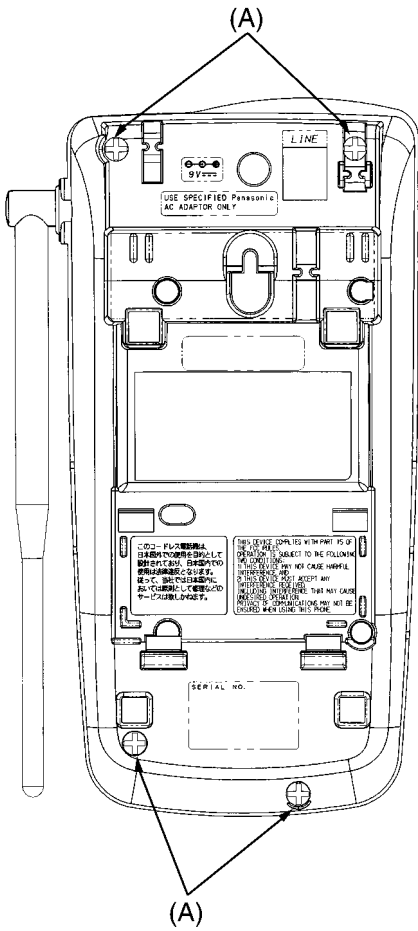

Fig. 1
(1) NORMAL POWER mode (Stand-By). In this mode the LCD will remain blank.
(2) TEST LOW mode. Place the portable unit on the base unit while pushing **FLASH** and **☒** key at the same time within 5 seconds after Power supply the portable unit. Refer to fixation CH table, figure 1 for the **☒** key. This test simulates the handset is at very large distance from the base unit and the TX signal from handset to base is very small.
| Fixation CH | Figure 1 | |